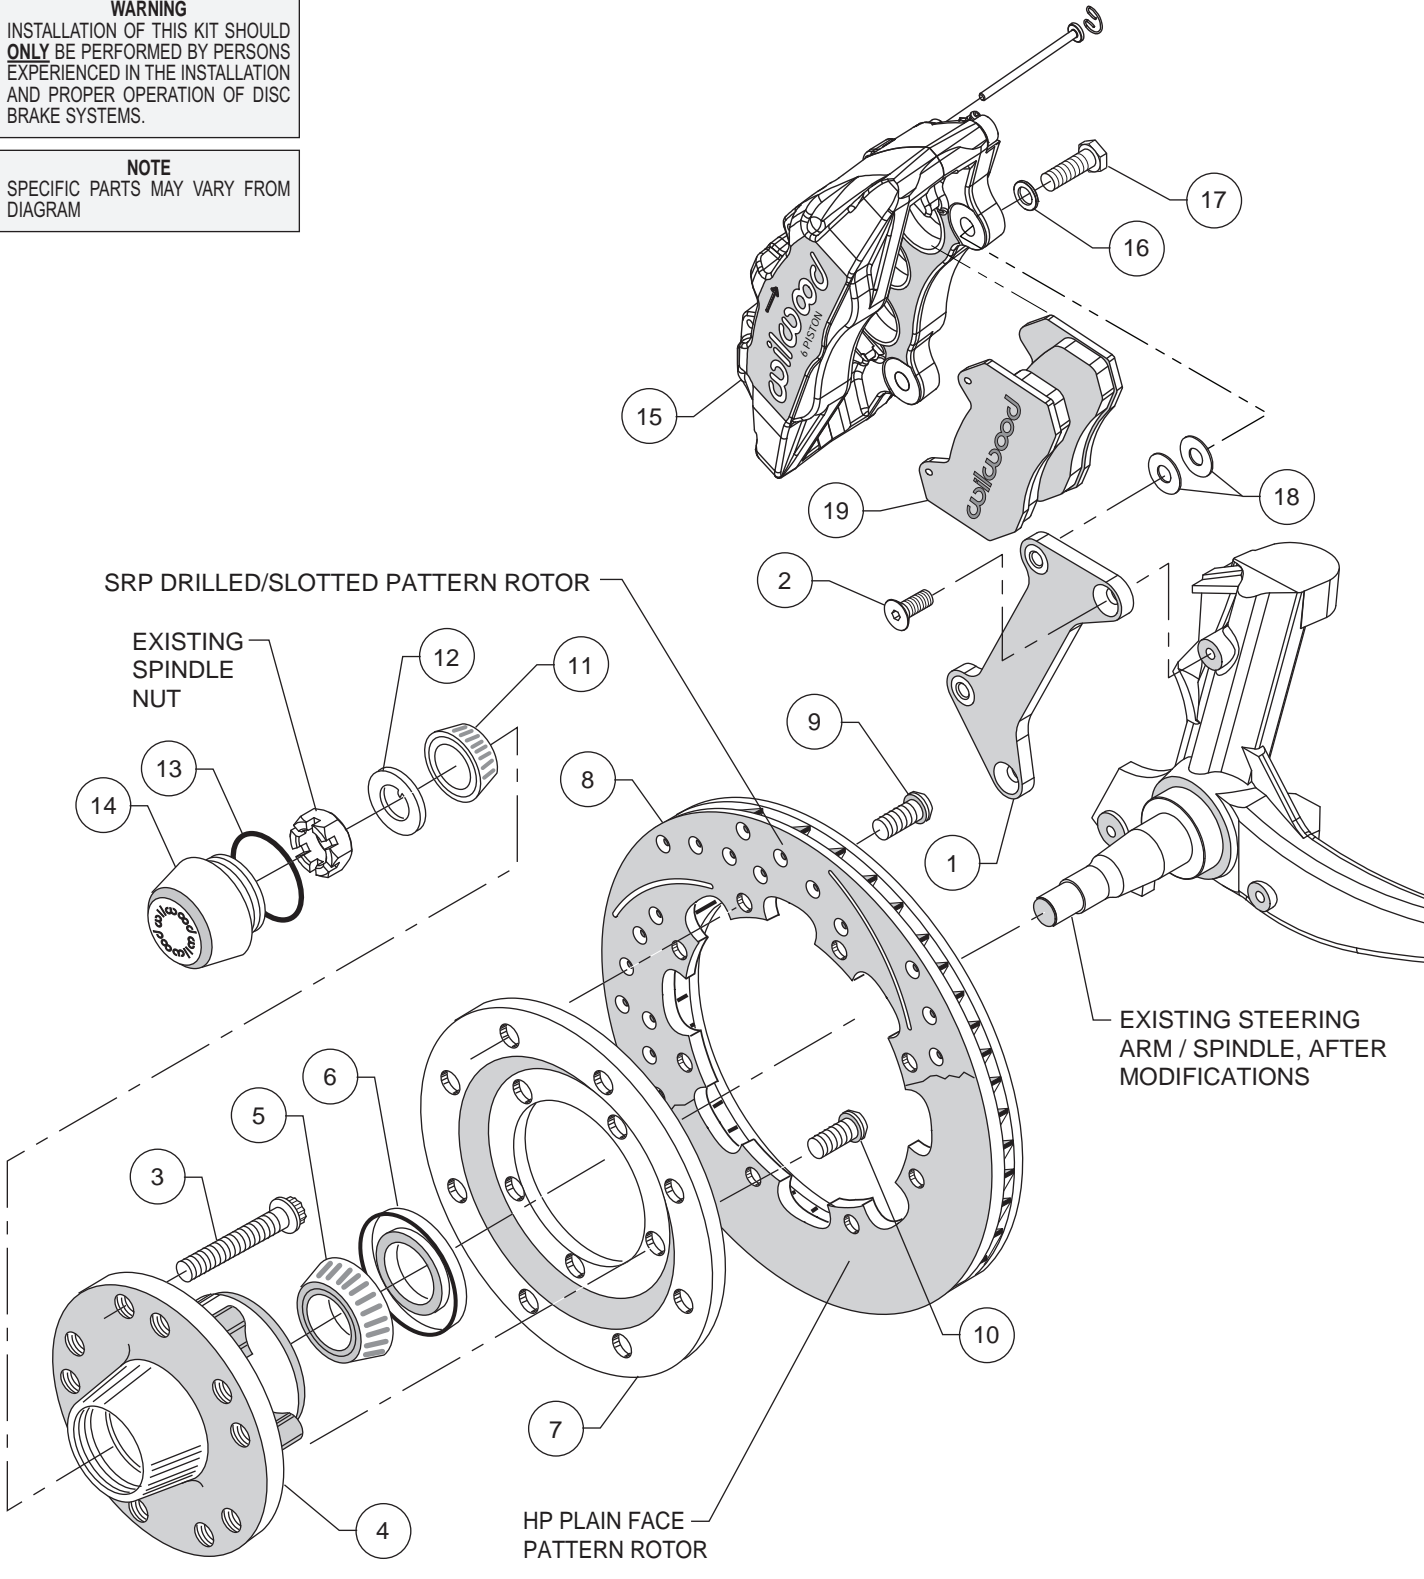
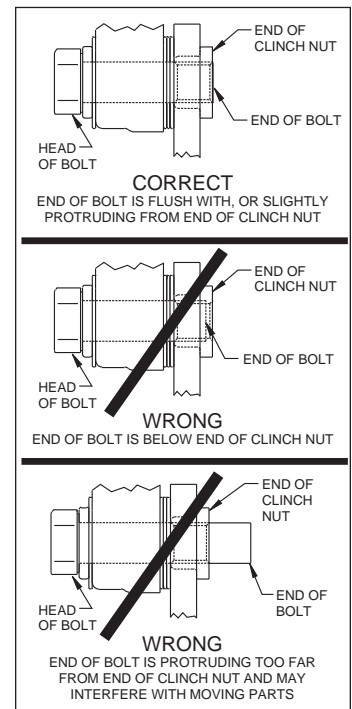

Figure 2. Typical Installation Configuration
Figure 4. Clinch Nut Engagement Diagram
Assembly Instructions (numbers in parenthesis refer to the parts list, and Figure 2): **CAUTION:** All mounting bolts must fully engage clinch nuts. Be sure to check that all bolts are either flush or protruding through flanged side of clinch nut after shimming, Figure 4.
- Orient the caliper mounting bracket (1) with the corresponding holes, to the face of the spindle as shown in Photo 1 and Figure 2. Attach using bolts (2), Photo 1 and Figure 2. Temporarily tighten the mounting bolts. Ensure that the flanged heads of the clinch nuts in the bracket are facing outboard, Photo 1. **NOTE:** The bracket must fit squarely against the mounting points on the spindle. Inspect for interference from casting irregularities, machining ridges, burrs, etc. Remove bolts one at a time, apply red Loctite® 271 to threads and torque to 40 ft-lbs.
- Orient the rotor (8) and the rotor adapter (7) as shown in Figure 2 and Photo 4. Attach the rotor to the adapter using bolts (9). Using an alternating sequence, apply red *Loctite*® 271 to the threads, and torque to 25 ft-lb.
- Mount the adapter/rotor assembly (7/8) to the hub (4) using bolts (10), as shown in Figure 2 and Photo 5. Using an alternating sequence, apply red *Loctite*® 271 to the threads, and torque to 45 ft-lb.
- Pack the small outer bearing cone (11) with high temperature disc brake bearing grease and install into hub (4). Slide the hub/rotor assembly onto the spindle. Secure using spindle washer (12) and OEM spindle nut, Photo 6. Adjust bearings per OEM specifications. Install saved OEM nut lock (if any) and a new cotter pin (not included).
- Screw dust cap (14) into hub (4), Photo 7. Friction created by the o-ring (13) on the dust cap keeps it from unscrewing. **NOTE:** The O.D. of the existing OEM spindle washer may be larger than the I.D. of the dust cap not allowing it to seat against the hub face. Therefore, use the spindle washer (12) supplied with the kit instead of the OEM washer.
- NOTE:** Please reference the caution statement at the beginning of the assembly instructions. This kit contains distinct right and left hand calipers that must be mounted in a specific direction, as described below. Mount the caliper (15) onto the caliper mounting bracket (1) using bolts (17) and washers (16), as shown in Figure 2. Initially place two .035" thick shims (18) on each bolt between the caliper and the bracket, Photo 8. Ensure that the caliper is mounted so the largest pistons are at the rotor exit end of the caliper, in relation to the direction of rotor rotation. Temporarily tighten the mounting bolts and view the rotor (8) through the top opening of the caliper. The rotor should be centered in the caliper, Photo 9. If not, adjust by adding or subtracting shims between the bracket and the caliper. Always use the same amount of shims on each of the two mounting bolts. **NOTE:** The end of each bolt must be flush with or slightly protruding from the head of the clinch nut, as shown in Figure 4. If necessary place spare shims between washer (16) and caliper mounting ear to achieve the proper clinch nut engagement. Once the caliper alignment and clinch nut engagement are correct, remove the mounting bolts and caliper.